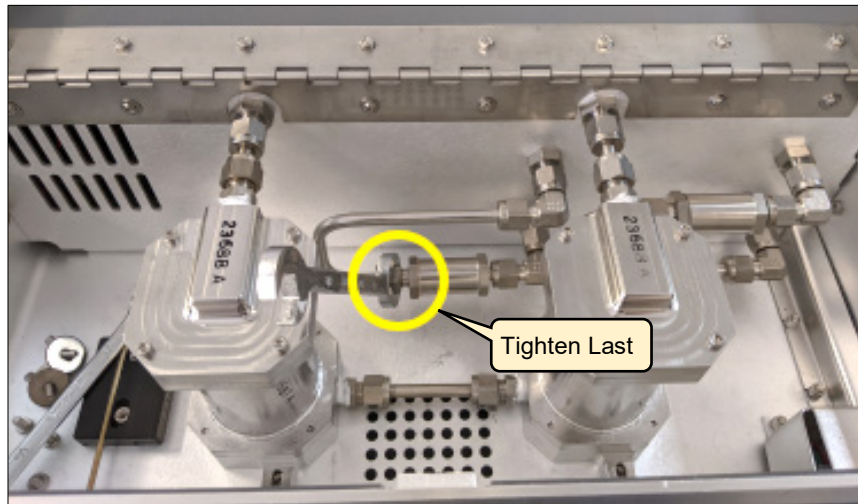

Figure 61: Tightening the Filter Final Fitting
8. Tighten the final Swagelok fitting shown in Figure 61 below.